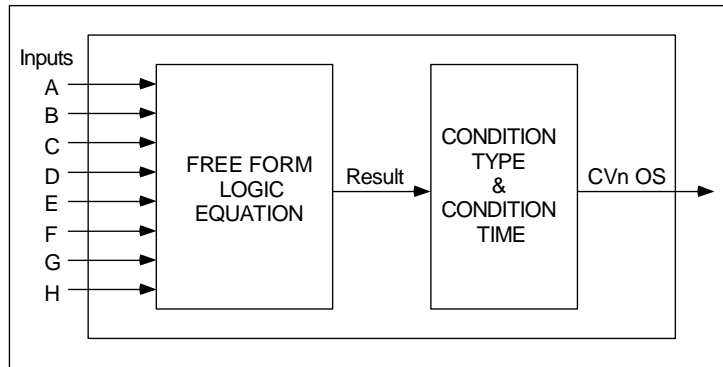

Figure 4-6 Free Form Logic Signal Flow
Lets you enter up to 64 characters as a custom logic equation (EQ) containing inputs and logical operators. The result of this equation is called "Result". Result is then processed according to the specified condition type and condition time. The final output is CVn OS. See Figure 4-6.